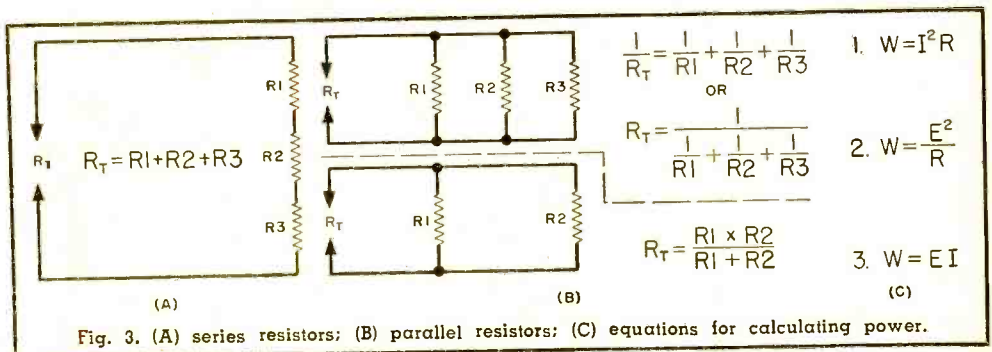

Fig. 3. (A) series resistors; (B) parallel resistors; (C) equations for calculating power.
When resistors are connected in series, the total resistance is simply the sum of the individual resistance values. A typical series connection is shown in Fig. 3 (A). If
When resistors are connected in parallel, the total resistance is less than the value of the smallest resistor. A parallel resistor circuit, together with the mathematical formulas used to calculate total resistance, is shown in Fig. 3 (B). Where only two resistors are in parallel, a special, relatively simple formula may be employed. This formula is also given in Fig. 3 (B).
Actual power, in watts, may be determined by the formulas given in Fig. 3 (C). When choosing a resistor for an electronic application, it is common practice to pick a wattage rating in a standard size at least two to three times the actual wattage that the resistor must dissipate as heat.